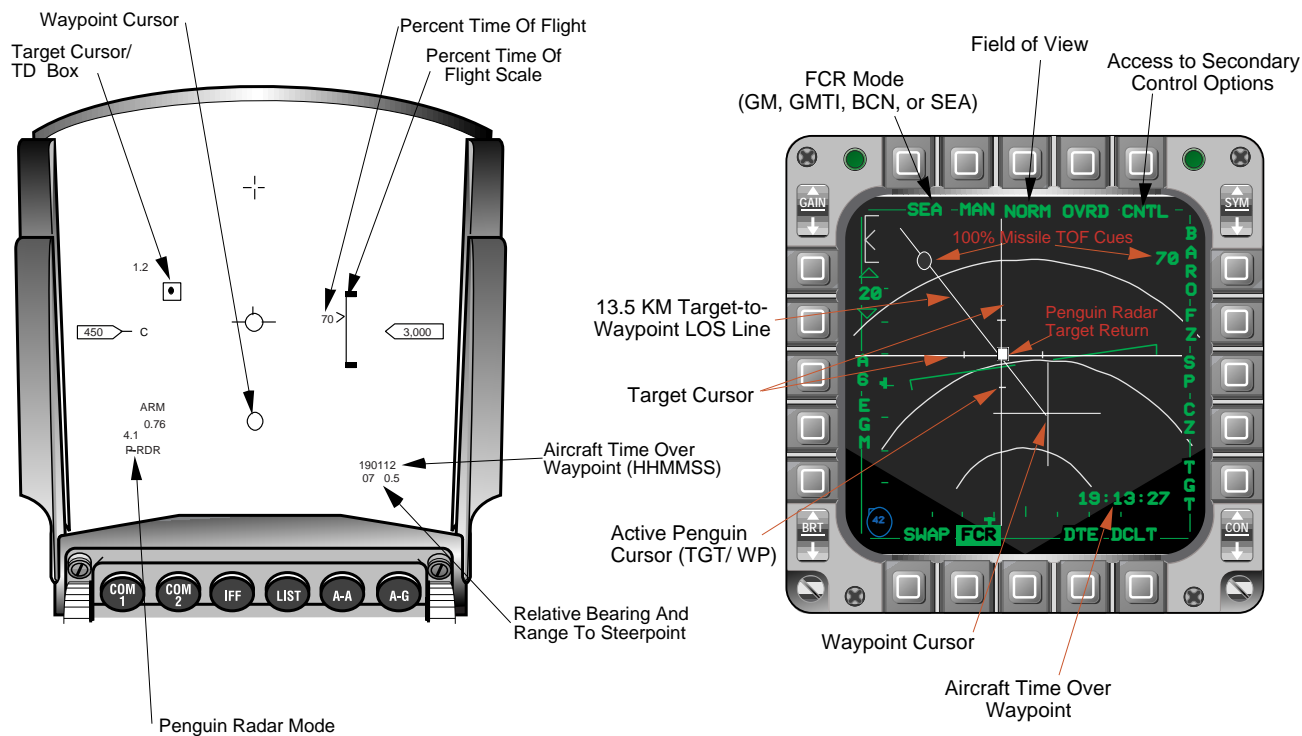

Figure 6-36 Penguin FCR and HUD Target and Waypoint Cursors
**P-RDR Symbology.** The Penguin target and waypoint locations are depicted on the FCR format and the HUD as two types of slewable cursors (Figure 6-36): the target cursor and the waypoint cursor. The target cursor on the FCR format is the FCR GM cursor and the waypoint cursor is a cross (+) that is approximately one-quarter the width and height of the FCR display area. For the HUD, the A-G TD Box represents the target cursor and a 10mR circle represents the Penguin waypoint cursor. The standard HUD target locator line will be displayed whenever the target cursor (TD box) location is outside the HUD Total Field Of View (TFOV). An “X” will be superimposed over the waypoint circle whenever its location falls outside the HUD TFOV.